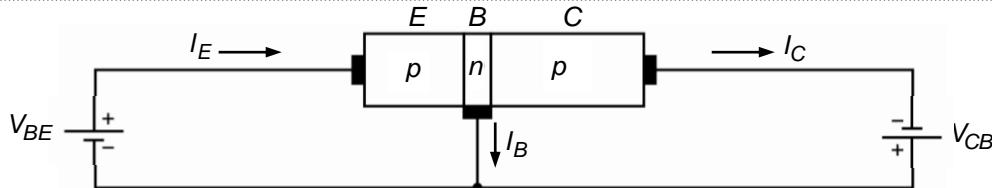

Fig. 3.21: A *p-n-p* transistor biased for amplifier operation with its emitter-base junction forward biased and collector-base junction reverse biased.
3. Fig. 3.21 shows a *p-n-p* transistor biased for amplifier operation along with the currents that flow in it. Its working is analogous to that of an *n-p-n* transistor and is described below. Note from Fig. 3.21 that in a *p-n-p* transistor too, the emitter-base *p-n* junction is forward biased while the collector-base *p-n* junction is reverse biased for its normal operation as an amplifier.